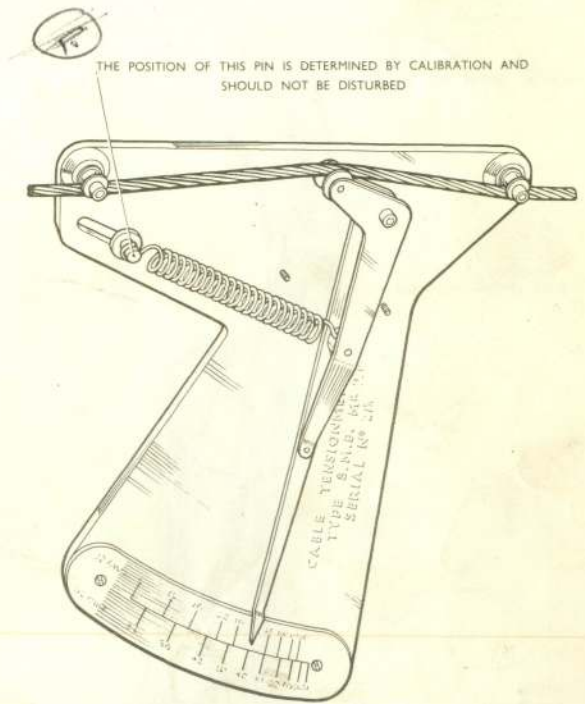
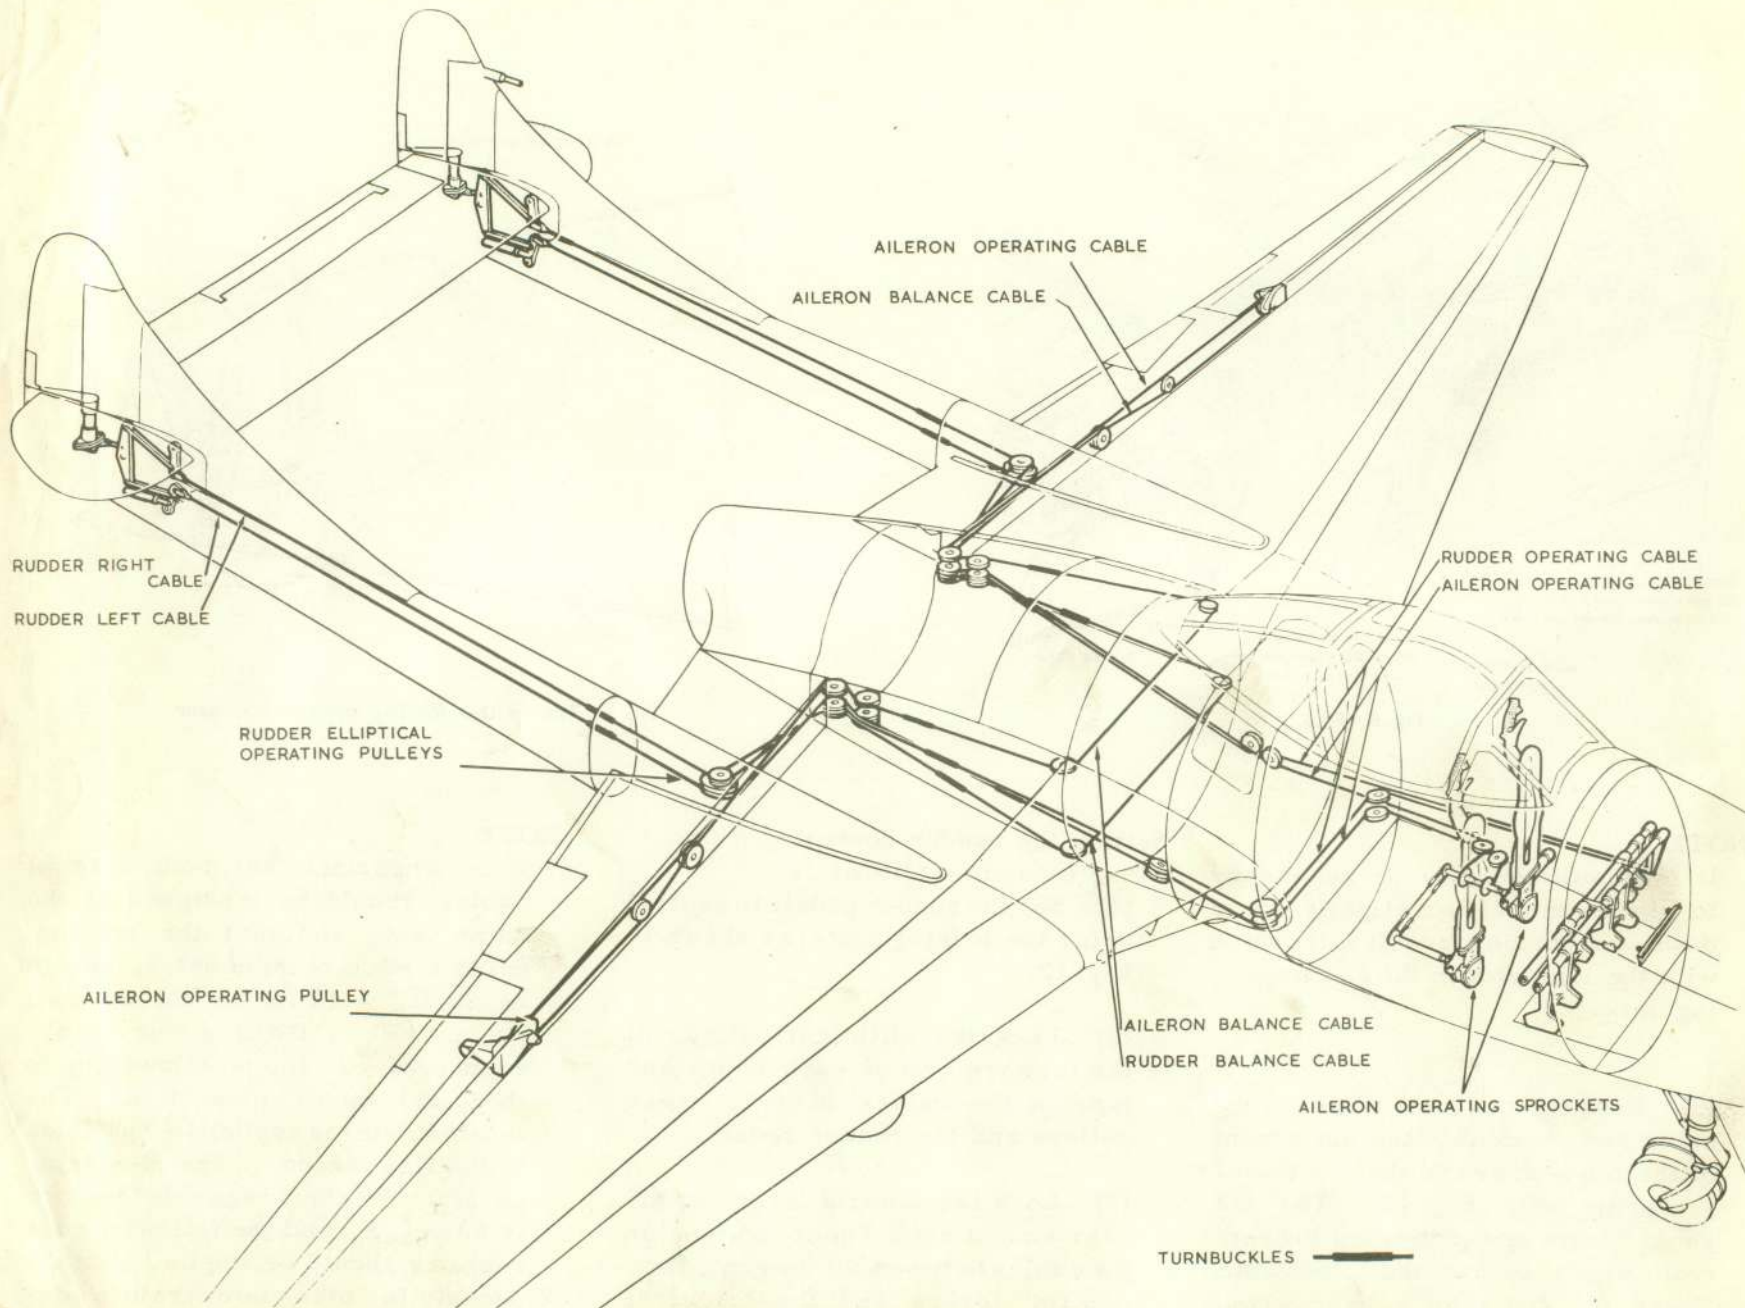

Fig. 2 Application of tensiometer
Fig. 10 Aileron and rudder control circuits
1. The movement of the first and second pilots' control columns and rudder pedals is transmitted to the respective control surfaces in a conventional manner by cable, pulley and rod. The layouts of the rudder, elevator and aileron control circuits are shown in Fig. 10 and 11. Elliptical pulleys, to which the cables are positively secured, are used in each of the circuits. These pulleys progressively increase the gear ratio between the cabin control and the control surface as the former is moved from the neutral position. The gear ratio reaches its maximum when the control column or rudder pedals are at full travel.
(4) Couple up and tension the cables. The positions of the various turnbuckles are shown in Fig. 10. Apply a Mk. 4 tensionmeter (Fig. 2) to the cables in the flap shroud on each side, and check that the tension on the 20 cwt. scale is 70 lb. \pm 10 lb. When fitting a new cable a tolerance of \pm 20 lb. is allowed up to the first inspection.